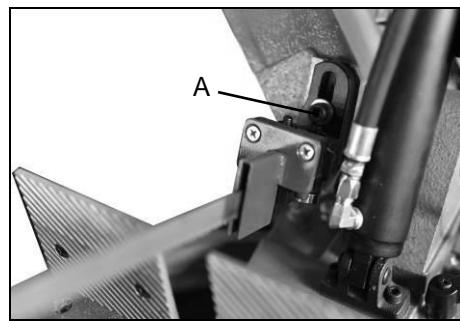

Fig. 19
Refer to Fig 19.
2. Place machinist's square on the table next to the blade as in Figure 19.
4. If adjustment is necessary, loosen bolt (A, Fig. 19) and rotate blade guide assemblies slightly in the same direction until blade makes contact with the square along its entire width.
5. Tighten bolt (Fig. 19).